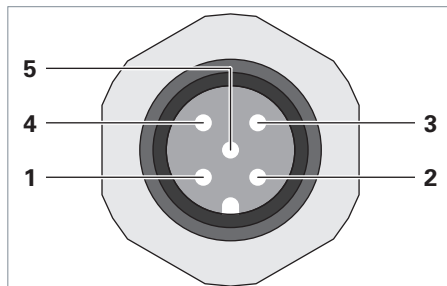

Fig. 5: Pin assignment.
- Apply 24 V DC to pole no. **2**, see Fig. 5.